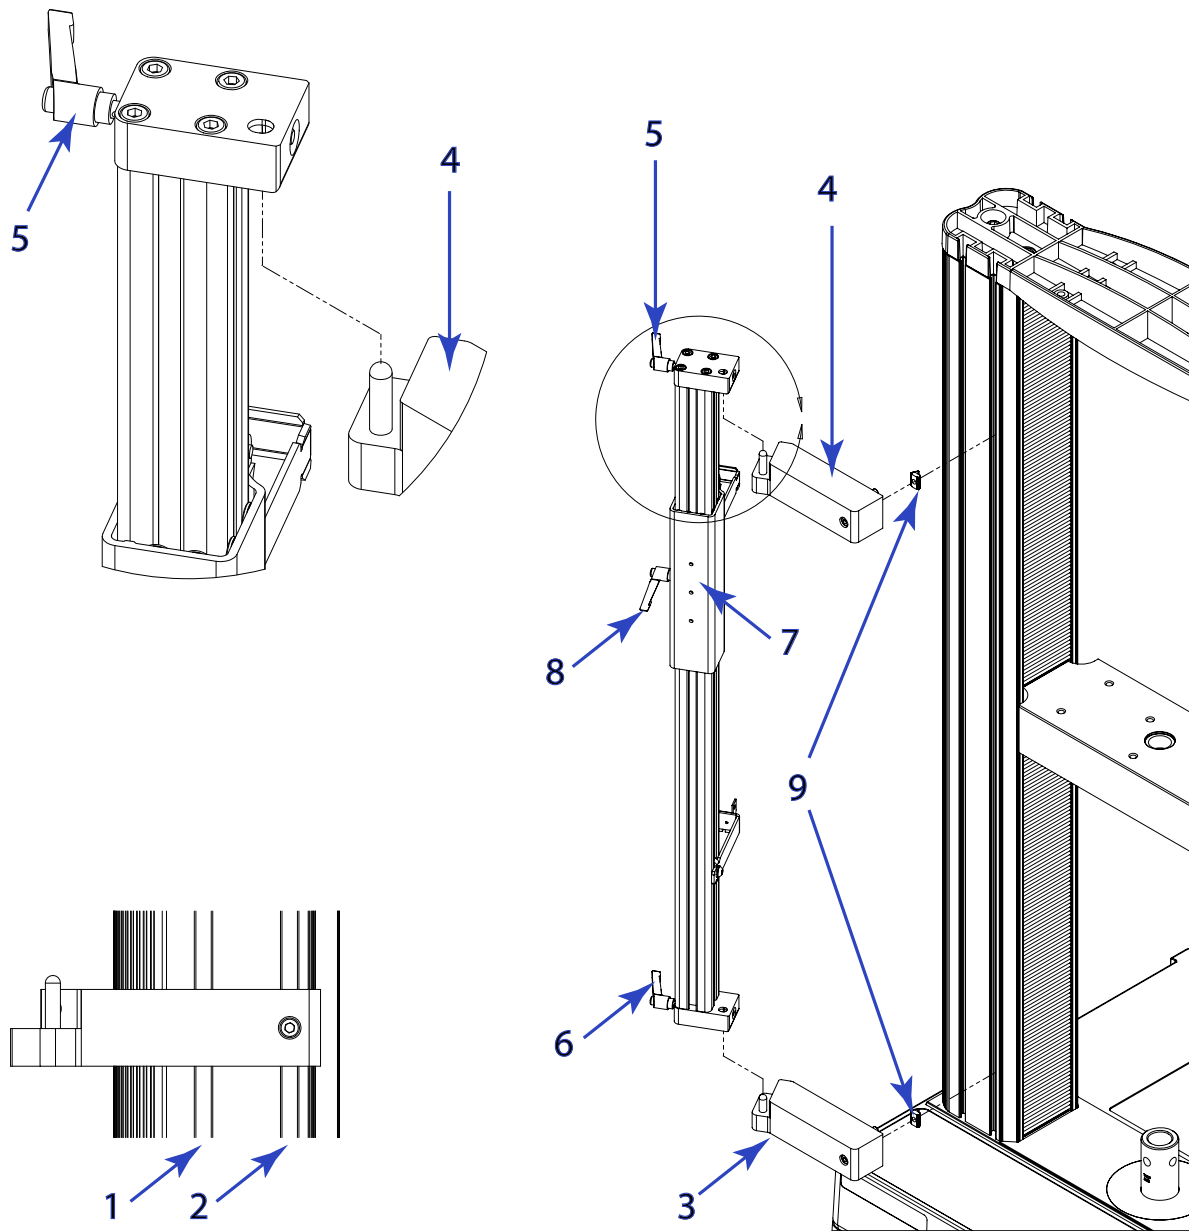

Figure 4. AVE3 on a 68TM dual column table top testing machine
Figure 4 on page 26 and Figure 5 on page 28 show the installation on a 68TM table model testing system. Dimensions are in mm.
Legend for Figure 4
- Make sure that you mount the bracket into the T-slot labeled 2 in Figure 4 on page 26 to ensure proper alignment.
- When the extensometer is not in use, you can loosen the two clamps on the post (5 and 6 in Figure 4 on page 26) and lift the whole assembly clear of the mounting brackets.
- You can change the position of the carriage on the post using the carriage adjustment handle (8 in Figure 4 on page 26).
The installation is the same as shown in Figure 4 on page 26 for dual column table models, except that different brackets are used.
The installation is the same as shown in Figure 4 on page 26 for the dual column table model, except that different brackets are used.